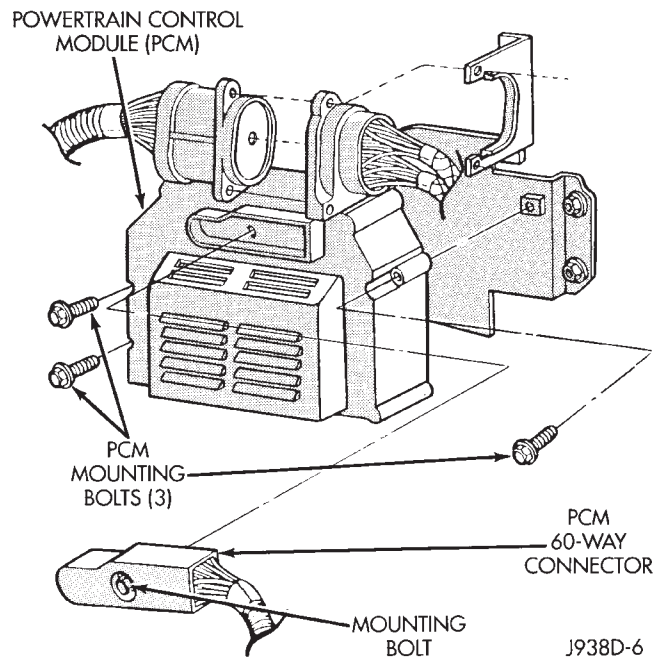

Fig. 10 Powertrain Control Module (PCM)
- (7) DO NOT disconnect the 60-way connector from the powertrain control module (PCM) - (Fig. 10). Remove the PCM and set aside.